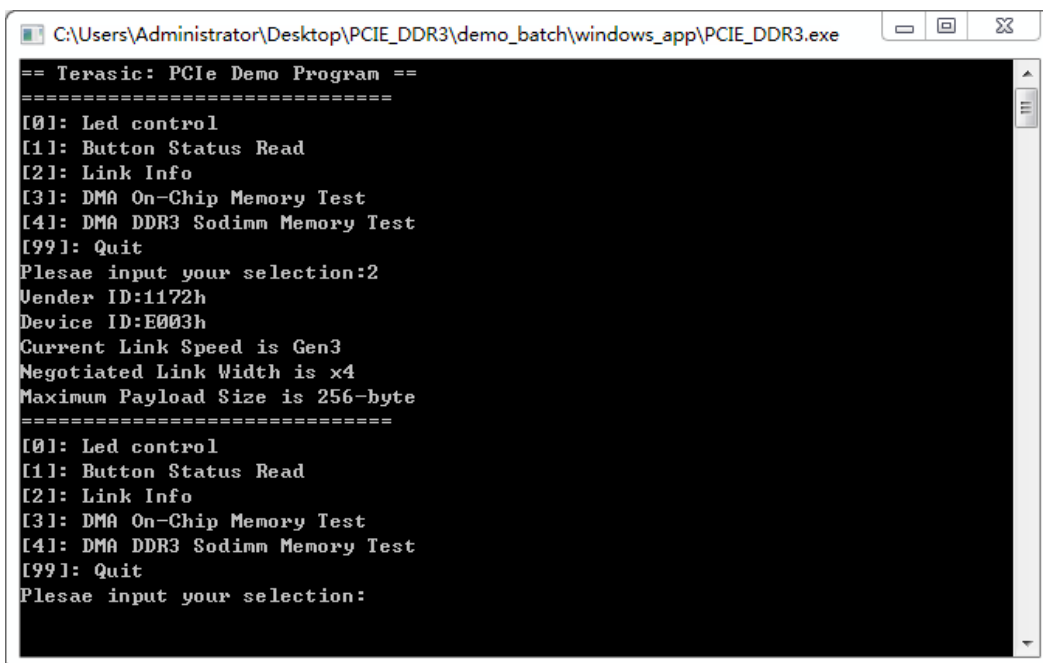

Figure 4-17 Screenshot of Link Info
8. Type 2 followed by the ENTER key to select Link Info item. The PICe link information will be shown as in Figure 4-17. Gen3 link speed and x4 link width are expected.